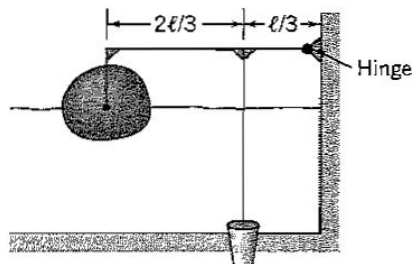

Figure P2.84
2.84 A float and lever system is used to open a drain valve, as shown in Figure P2.84. The float has a volume V and a density ρ_f . The density of the water is ρ_w . Find the